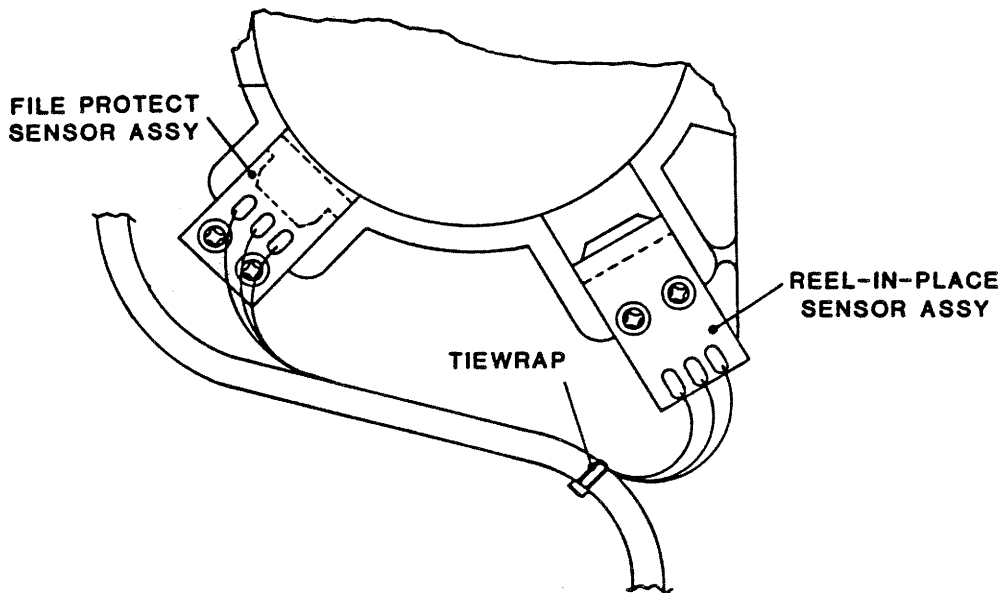

Figure 4-11 File-Protect and Reel-In-Place Sensor Assemblies
4.3.11 REEL-IN-PLACE SENSOR ASSEMBLY (Fig. 4-11)
4.3.12 FILE PROTECT SENSOR ASSEMBLY (Fig. 4-11)